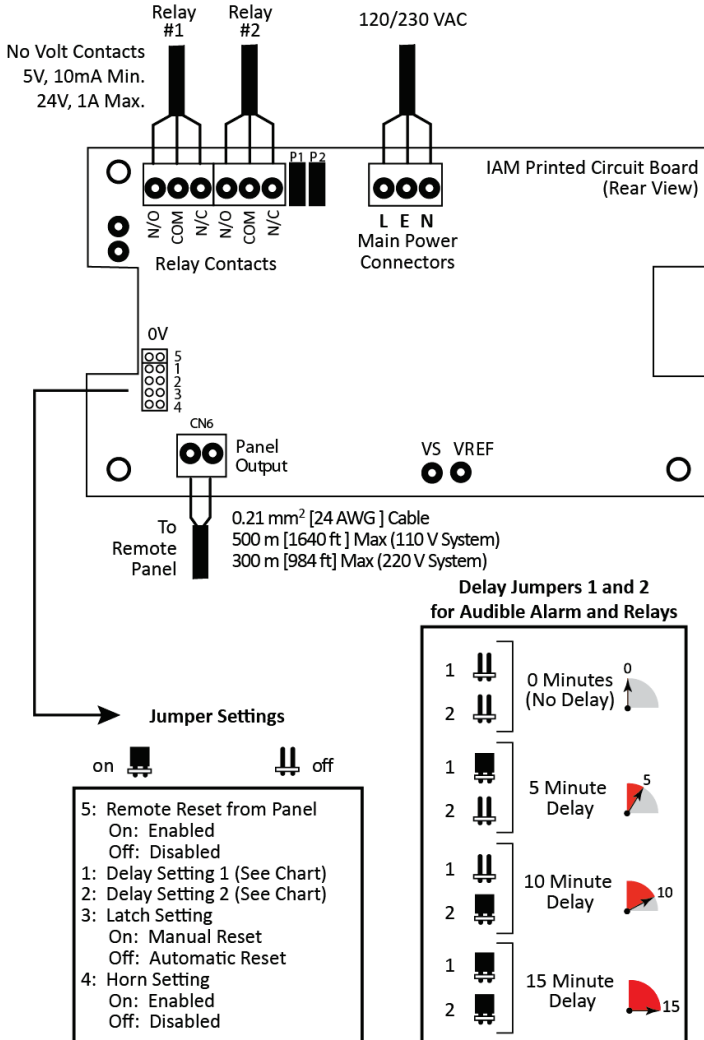
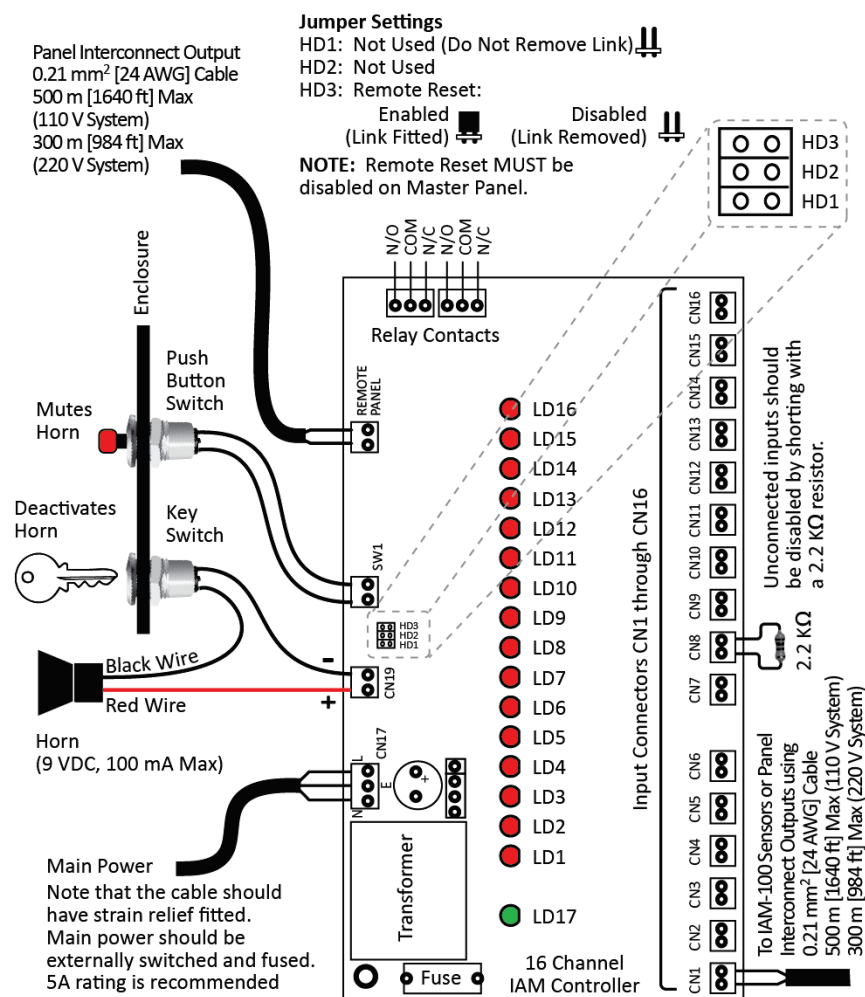

Figure 7. IAM-100 Internal Components
Figure 8. Controller Internal Components
1	Where applicable, connect the output to the remote IAM Controller at CN6 (see Figure 7) using two-wire cable. This output is not polarity oriented. If installing a standalone IAM, ignore this step.
Open the IAM-C by removing the two front cover screws. Remove the metal faceplate and locate the connection terminals. To install the IAM-C, refer to the network drawing (Figure 3) and wiring diagram (Figure 8).
1	Connect the Remote Panel output to an input of the upstream IAM Controller (see Figure 8 and Figure 3) using two-wire cable. The output is not polarity oriented. If an upstream IAM Controller is not used, ignore this step.
4	If used in your application, wire the optional alarm horn to connector CN19 using the + and - guides in Figure 8 as a reference.
5	Connect up to 16 IAM sensors (panel output CN6 in Figure 7) to input connectors CN1 through CN16 on the IAM Controller (Figure 8) using two-wire cable. The polarity does not matter. Observe proper wire type and length limits as specified in Figure 8.
6	Disable individual channels by installing a 2.2 K Ω resistor across each unused terminal block. See input CN8 in Figure 8.
- Deactivate the alarm delay (if active) by removing the alarm delay jumpers per Figure 7.
To test the buzzer and/or relay function, check the delay is set at zero using the multi-pin connector positions 1 and 2 (as shown in Figure 7) and expose to gas as above. You can mute the buzzer using the mute button.